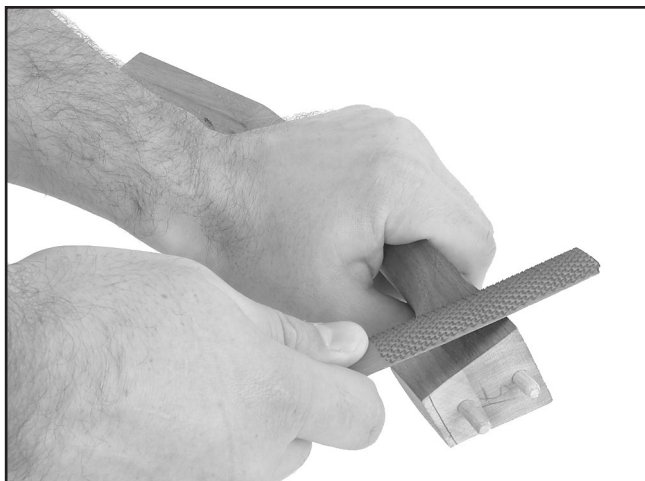

Figure 21. Shaping end of neck.
- Use a 4-in-1 shoe rasp to carefully file the end of the neck down to the line you drew in **Step 11**, as shown in **Figure 21**. Shape both sides of the neck, then sand smooth with #220 grit sandpaper.